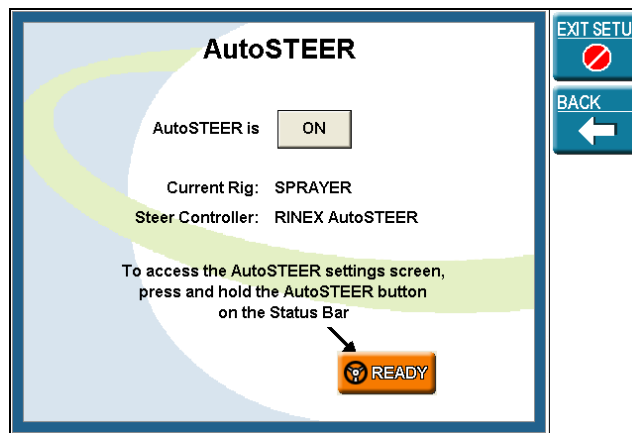

Figure 3-3: AutoSTEER Window
- 2) Touch the **AutoSTEER** button to display the AutoSTEER window. See Figure 3-3.